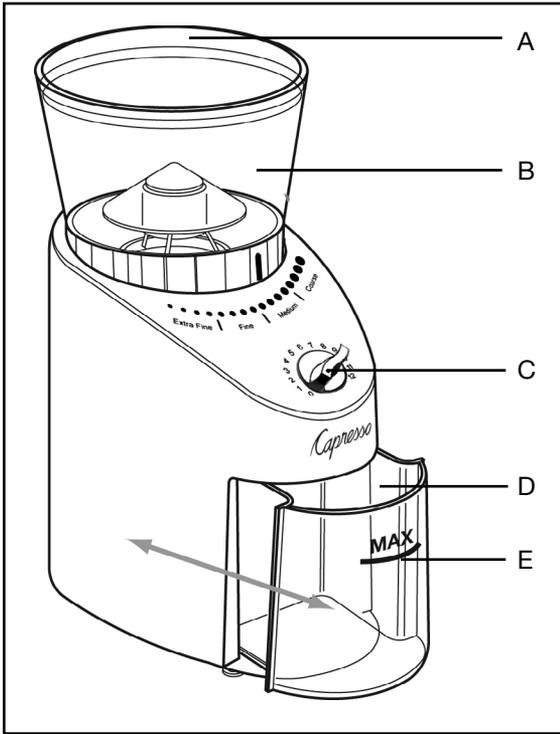

Fig. 1
13. Check bean container (B) for presence of foreign objects before using.
14. To prevent clogging and overheating of motor, never grind above the "Max- Line" of the ground coffee container (Fig. 1, E).
6. Place the lid (Fig. 1, A) onto the bean container before turning it to the desired position. It is easier to turn the bean container back and forth with the lid in place.
9. **Important:** Never let ground coffee exceed the Max-Line on the ground coffee container (Fig. 1,E). Too much coffee in the ground coffee container can back-up into the feeder channel. If grinding continues this can burn out the motor.
3. When the bean container points to one of the grind settings, turn the cup selector (Fig. 1,C) to any position and grinding will start.